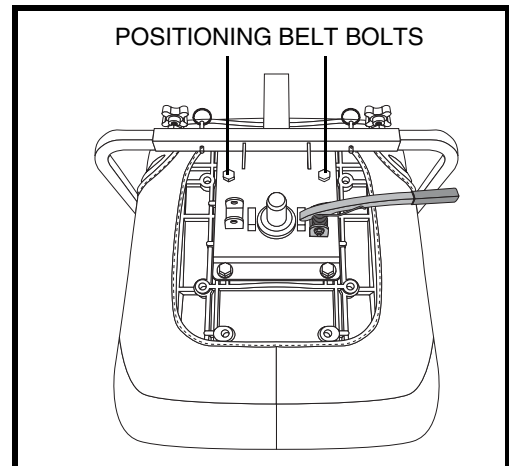

Figure 20. Positioning Belt Bolts
3. Remove the two bolts on the outermost part of the rear seat mounting strap. See **figure 20**.